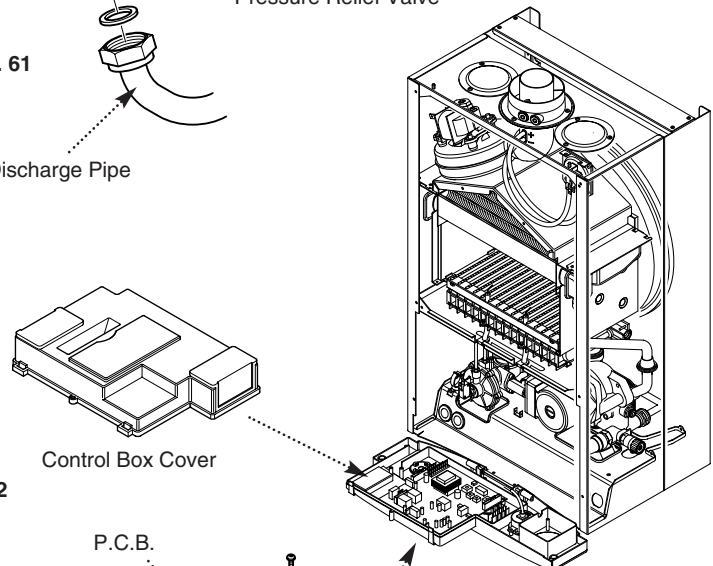

Fig. 62
2. Remove the screws securing the control box cover and release the cover retaining barbs from their slots. Disengage the rear of the cover from the control box hinge pin (Fig. 62).